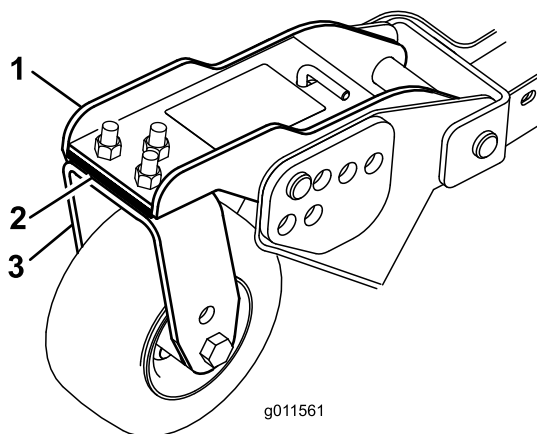

Figure 29
Rotate blade of each spindle until the ends face forward and backward. Measure from the floor to the front tip of the cutting edge. Adjust 1/8 inch shims on front castor arm(s) to match height of cut to decal (Figure 29). For the outside blade spindle only, refer to Adjusting the Cutting Unit Pitch.
3. If the inside edge of the side cutting unit is too high relative to the outside edge of the front cutting unit, remove one 1/8 inch shim from the bottom of the front inside castor arm on the side cutting unit (Figure 29). Recheck measurement between outside edges of both side cutting units and inside edge of side cutting unit to outside edge of front cutting unit.